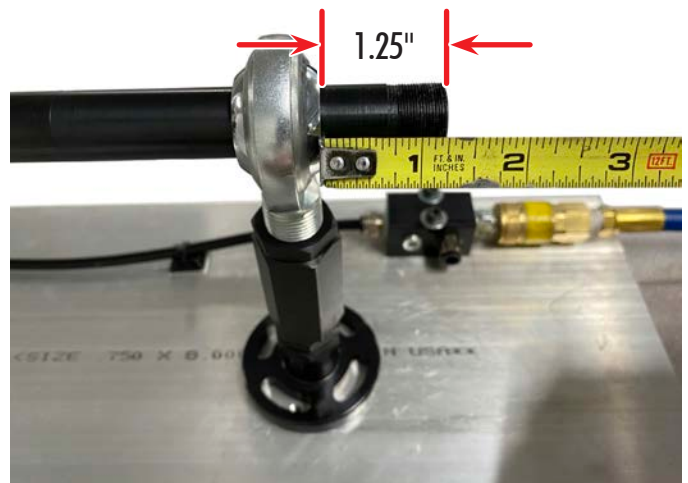

FIGURE 29
- K. When the assembly is in position, there should be approximately 1-1/4" (32 mm) of the bar feeder tube extended out past the end of the ball joint (see Figure 29).